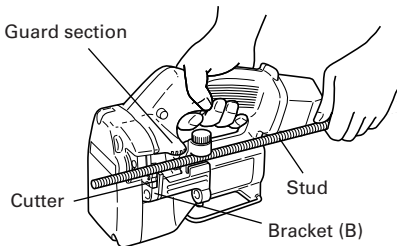

Fig. 7
- When cutting short studs, take caution as to not place your fingers in the space between the short stud and main unit, such as the guard section (see Fig. 7), battery, etc.
- (1) Pull the trigger switch and move bracket (A), stopping with the cutter in the open position shown in Fig. 7.
- (3) While maintaining the stud in a horizontal position, pull the trigger switch all the way to cut the stud (Fig. 7).
- (4) After cutting turn off the switch with bracket (A) facing directly upward. The unit stops with the cutter in the open position, thus making it easier to proceed to the next operation.